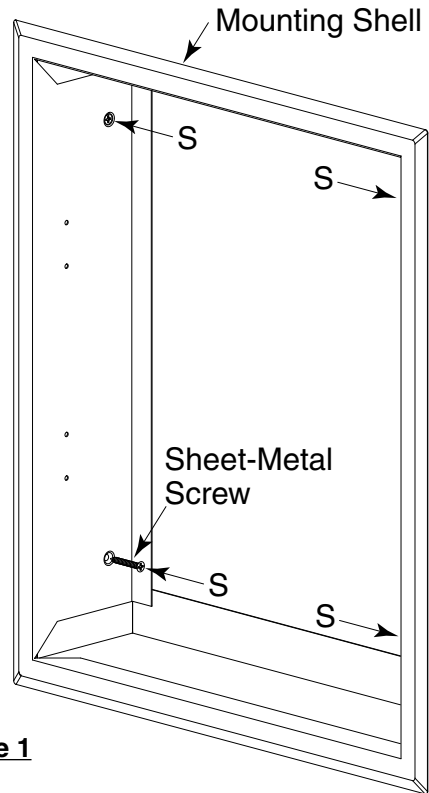

Figure 1
2. Mount the Shell in wall opening with shims between framing and the Shell at four points indicated by an S, then secure the Shell with four #8 x 1-1/4" (4.2 x 32mm) sheet-metal screws (not furnished) in the four holes on the sides of the Shell. (See Figure 1).